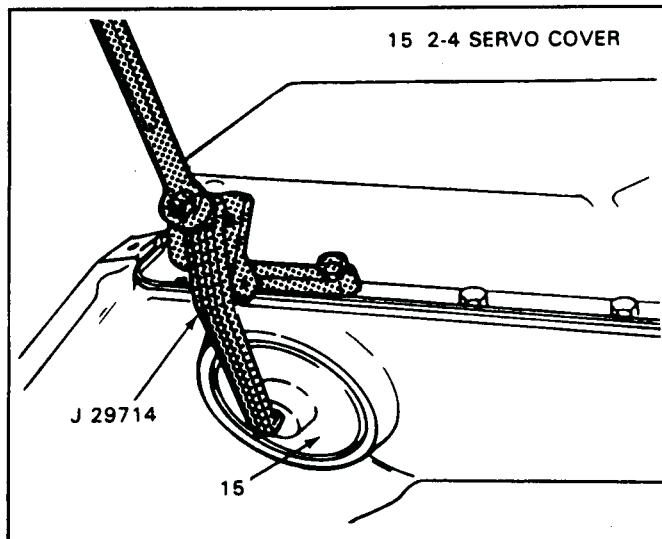

Figure 205
5. Compress the servo cover using J-29714 tool, as shown in Figure 205.
7. Remove the servo tool and retorqued the pan bolt (See Figure 205).